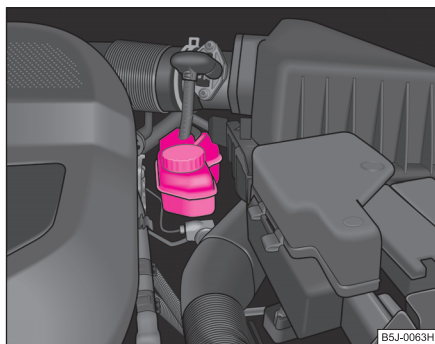

Fig. 147 Engine compartment: Brake fluid reservoir
- Inspect the brake fluid level in the reservoir ⇒ fig. 147. The level must be between the “MIN” and “MAX” markings.